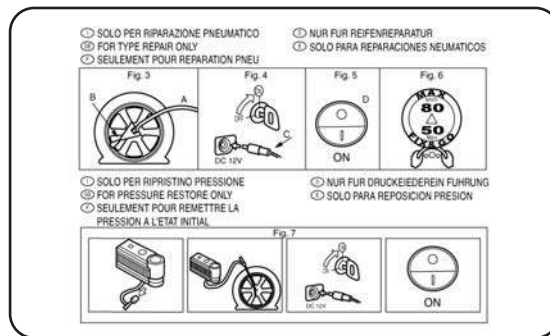

fig. 3
- informative leaflet (see fig. 3), used to ensure the correct use of the quick tyre repair kit and then given to the personnel who will be handling the treated tyre;